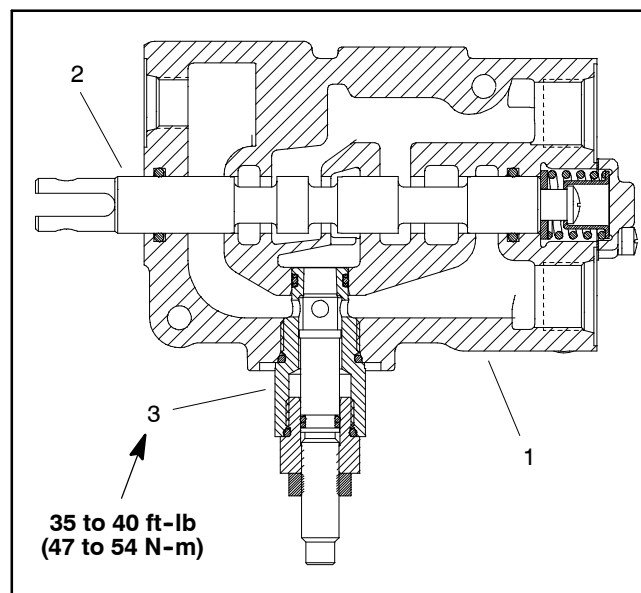

Figure 44
2. Remove two (2) screws with lock washers (item 7) that secure end cap (item 12) to control valve. Remove end cap.
3. Remove screw (item 5), spacer (item 13), spring (item 20) and washer (item 6) from control valve.
4. Carefully slide spool (item 8) from housing bore.
5. Carefully remove o-rings (item 4) from spool bore. Take care not to damage spool bore or o-ring cavities during o-ring removal.
6. Remove detent plug (item 16), o-ring (item 18), spring (item 17) and detent ball (item 1).
7. Remove plug (item 9) with o-ring (item 21) and lockout seat (item 25) with o-ring (item 24) from valve body.
8. Remove adapter plug (item 14) with o-ring (item 15), poppet stop (item 10), spring (item 2), and poppet (item 11) from control valve body.
9. Remove lockout seat (item 22) with o-ring (item 23) from control valve body. Remove detent plunger (item 19).
10. If control valve is equipped with counterbalance valve (Fig. 44), remove valve from control valve if needed. Counterbalance valve disassembly is not recommended.
5. Coat spacer (item 13), spring (item 20) and washer (item 6) liberally with MPG-2 (or equivalent) grease. Apply Loctite #242 (or equivalent) to threads of screw (item 5). Install washer, spring and spacer into valve and secure with screw. Torque screw from 24 to 36 in-lb (2.7 to 4.1 N-m).
6. Apply Loctite #242 (or equivalent) to threads of screws (item 7).
7. Position gasket (item 3) and end cap (item 12) to control valve. Secure end cap to valve with two (2) screws with lock washers (item 7). Torque screws from 24 to 36 in-lb (2.7 to 4.1 N-m).
8. Lubricate detent plunger (item 19) with clean hydraulic oil and slide into control valve bore.
9. Install new o-rings (items 23 and 24) to lockout seats (items 22 and 25). Apply Loctite #242 (or equivalent) to threads of lockout seats. Install seats into control valve. Torque seats from 18 to 20 ft-lb (24 to 27 N-m).
10. Lubricate poppet (item 11), poppet stop (item 10) and spring (item 2) liberally with clean hydraulic fluid and install into control valve bore.
11. Install adapter plug (item 14) with new o-ring (item 15) and plug (item 9) with new o-ring (item 21) into control valve. Torque plugs from 35 to 40 ft-lb (47 to 54 N-m).
12. Install new o-ring to detent plug (item 16). Lubricate detent ball (item 1) and spring (item 17) with clean hydraulic fluid and install into detent plug.
14. If counterbalance valve was removed, carefully thread valve into control valve housing (Fig. 44). Torque counterbalance valve from 35 to 40 ft-lb (47 to 54 N-m).